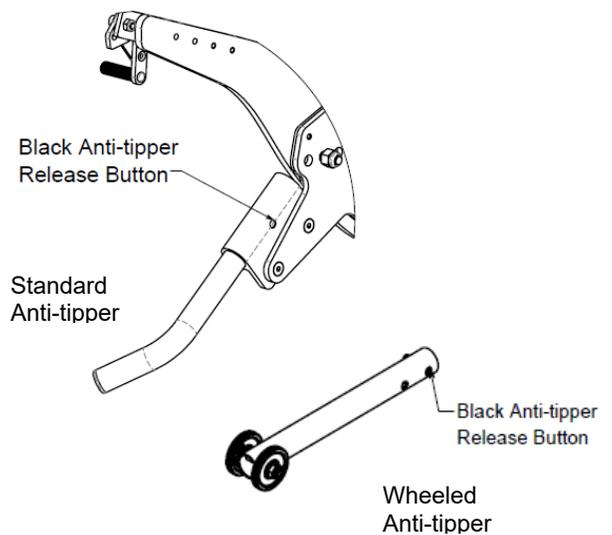

Figure 15.36: Reverse Bentley Anti-tipper positioning
1. Press and hold the release button on the anti-tipper tube. (See Figure 15.36)